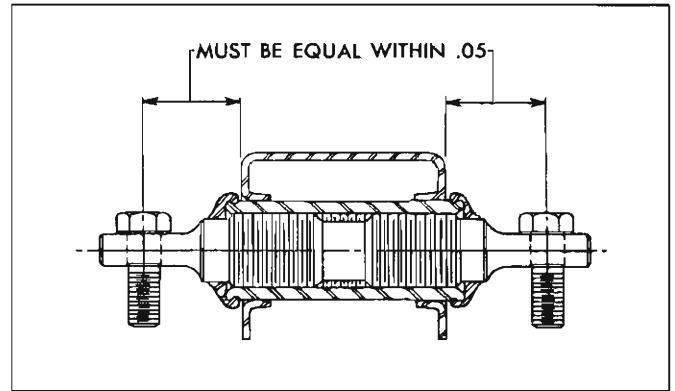

Fig. 28—Installing Pivot Shaft—Chevy II
5. Screw pivot shaft into spring seat sleeve until bolt hole centerlines are equal distance from spring seat within .05" (fig. 28).